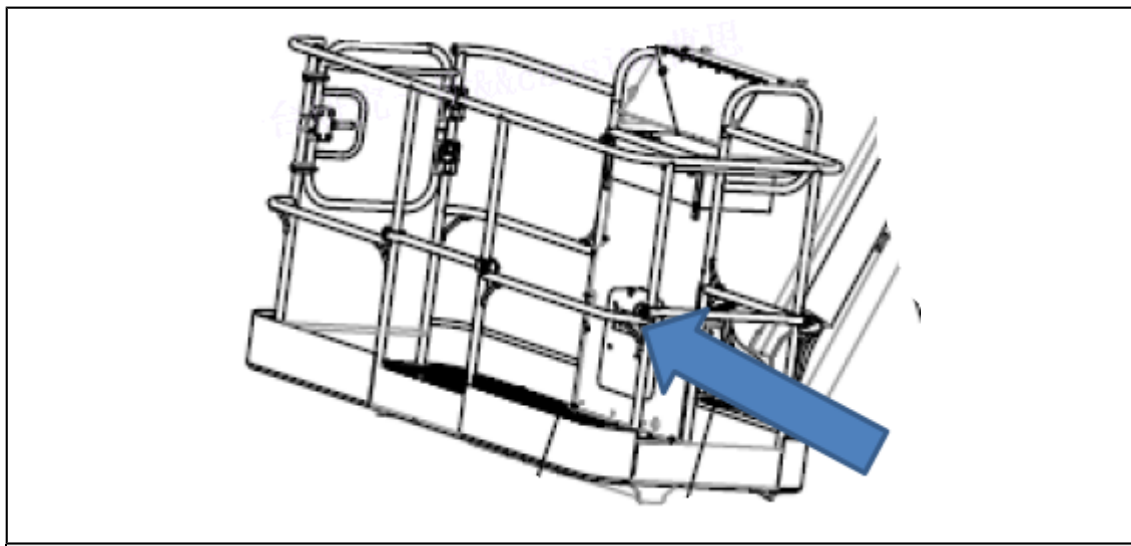

Figure 1-1 Designated storage location of this Instruction Manual on the machine is the box beneath work platform control box
- **It is mandatory to keep this Instruction Manual always available to operators and maintenance personnel, at the machine. Store it at the designated storage location Figure 1-1**